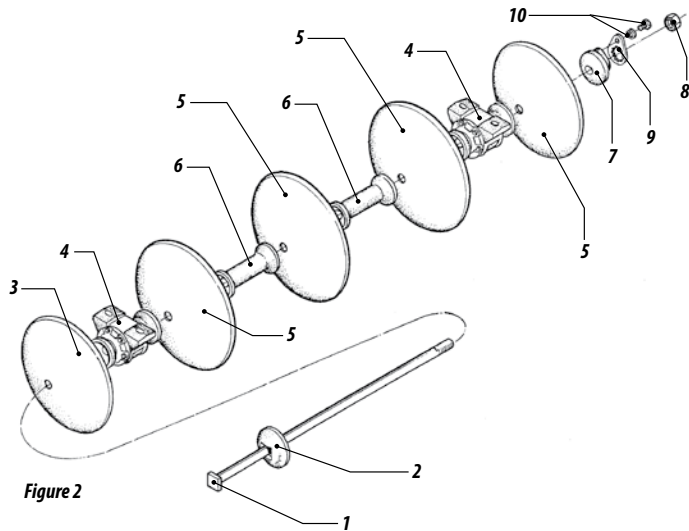
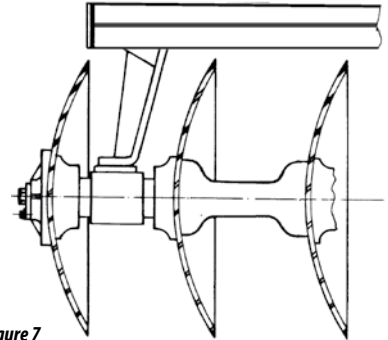

Figure 2
Figure 7
- 03 - Place in shaft item 1 Figure 2, the washer item 2, ensuring that it fitted the shaft head. Then, place a disc of smaller diameter item 3, (only for rear sections), the bearing item 4, the other disc item 5, the separation reel item 6 and so on as shown in figure 2.
- 04 - When the assembly is complete with all discs, bearings, and separation reels, place the convex washer, item 7, nut, item 8, giving a prior tightening with the key until the set is stable.
- 05 - Then, wedge the set and tighten the nut, item 8, through impacts. When almost achieving maximum tightening, adjust the latch, item 9, with convex washer, always tightening the nut to match the drilling, fasten them through the screw, item 10.
- 02 - Lift part of the structure (front or rear), place the disc sections under the frames, observing their arrangement shown in Figure 2. Match the drilling of shoes with those of bearings, and make the assembly with screws, item 1 Figure 6, flat washer, item 2, pressure washer, item 3, and nut, item 4, noting that the bracket (shoe) should be facing the concavity of the discs, as in Figure 7.